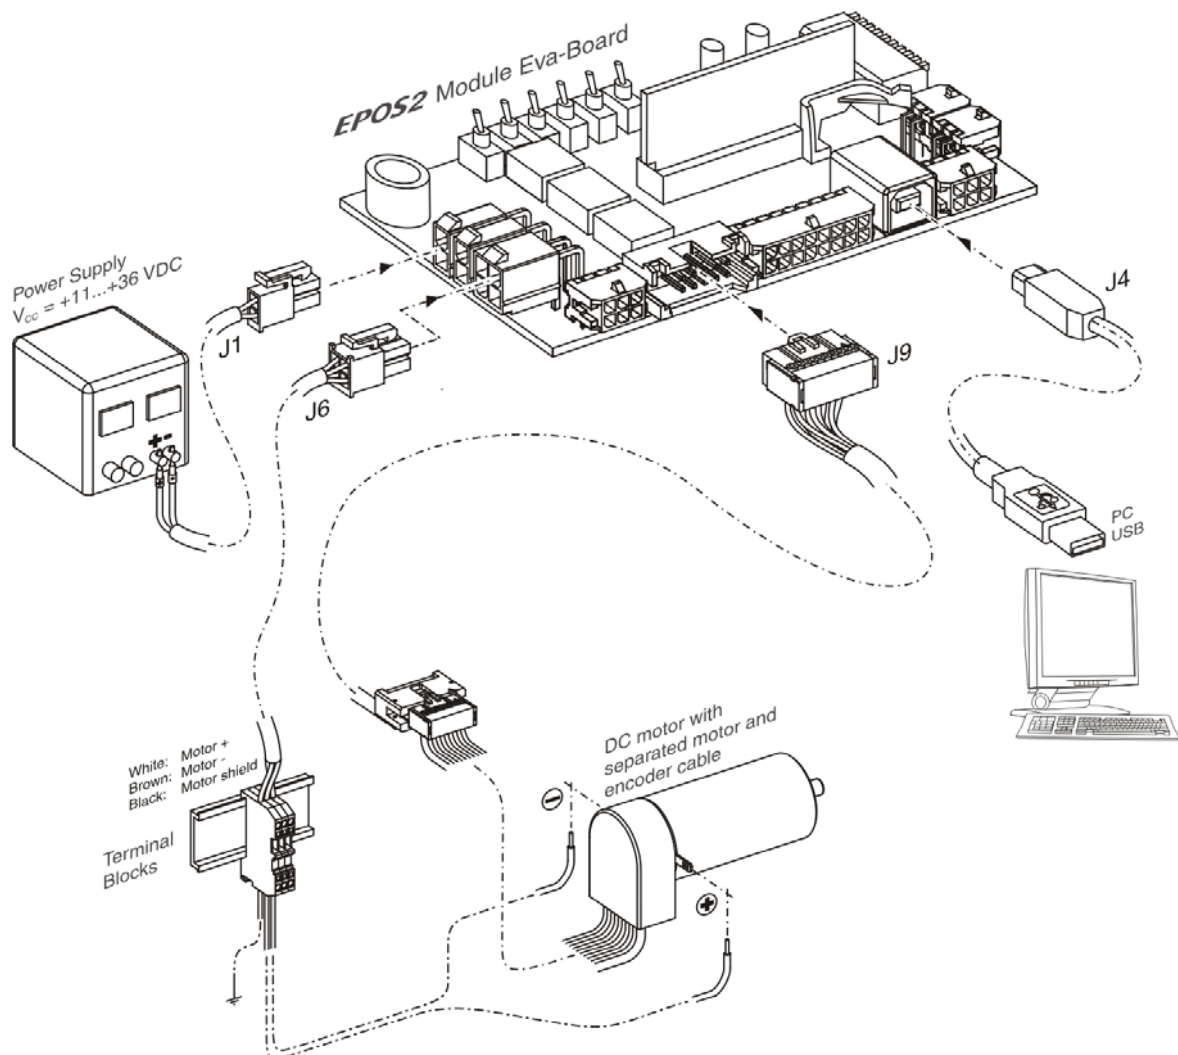

Figure 3-5 Minimum Wiring: maxon DC motor with separated Motor/Encoder Cable
- 3) Connect maxon cable assemblies (→ Table 3-7 and Figure 3-5).